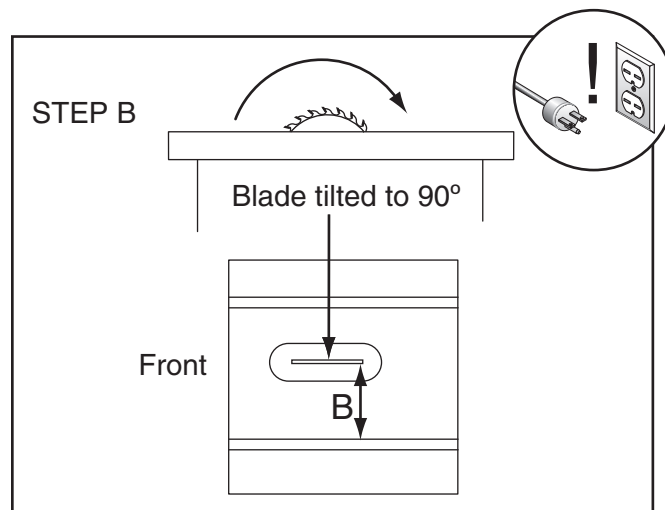

Figure 110. Measuring distance from miter slot to carbide tip on opposite side of table insert.
6. Compare the distance from the marked blade tip to the miter slot, as shown in **Figure 110**.